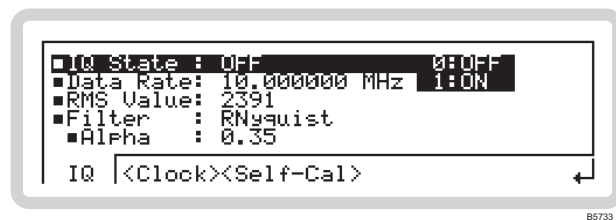

Fig. 3-66 External IQ, digital
- 2 Press **SIG GEN** to show the main screen, and touch the **IQ** soft box to select the function. Touch **IQ** and press **IQ** to view the external digital IQ modulation menu (Fig. 3-66).